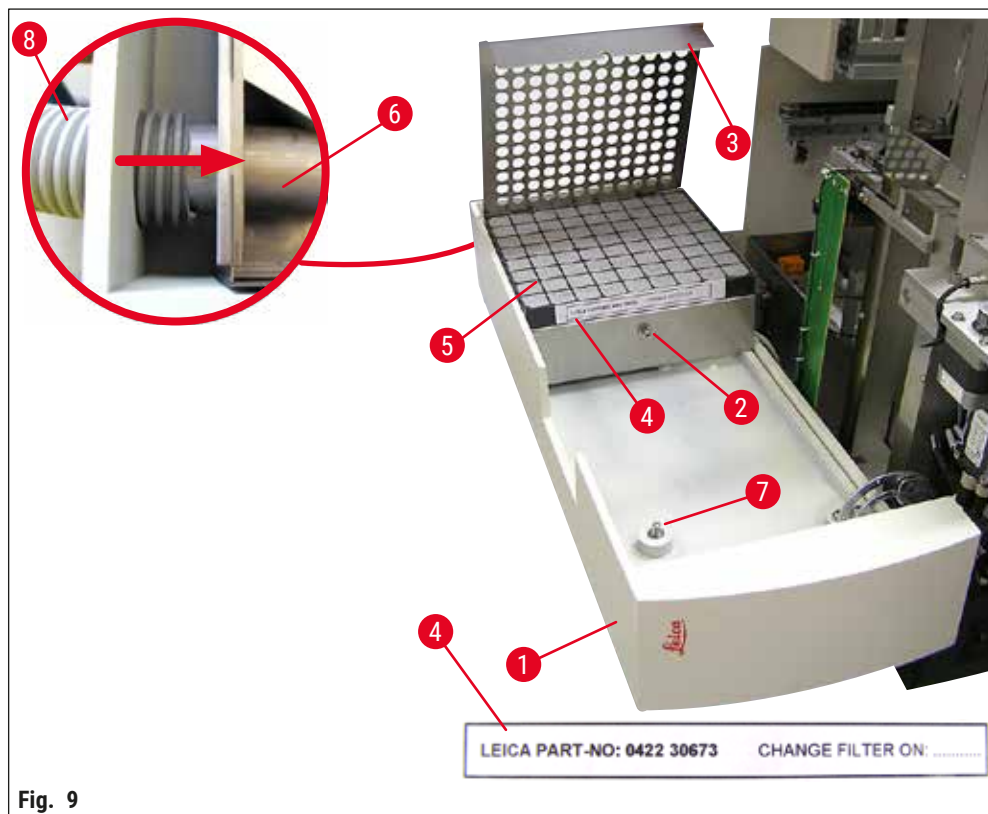

Fig. 9
(→ Fig. 9) detail: Assembly of the exhaust hose (→ Fig. 9-8). The filter cover (→ Fig. 9-3) and filter (→ Fig. 9-5) have been removed to show the connecting piece (→ Fig. 9-6).
2. Open the service door (→ Fig. 15-1) as outlined in (→ p. 26 – 4.6 Installing the dispenser group) (→ Fig. 9).